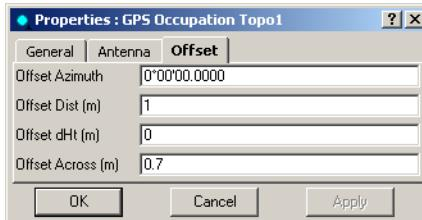

Figure 4-86. GPS Occupation Properties – Offset Tab
3. On the *Properties* dialog box, click the *Offset* tab (Figure 4-86).